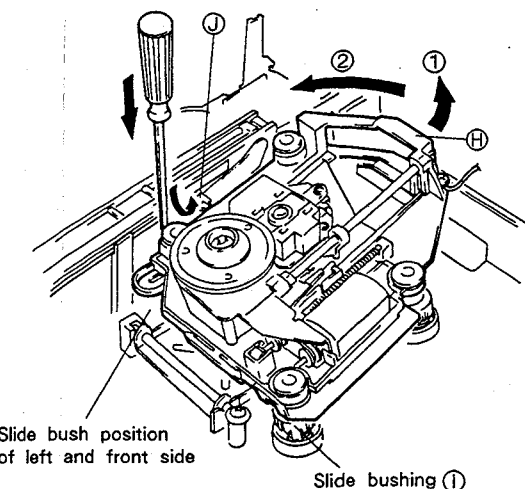

Fig. 2-4
- ④ Push the slide bushing at the front left with a thin implement such as a ⊖ screwdriver (Fig. 2-4).
- ⑤ Pull up the rear side ⑧ of the servo mechanism assembly. (Arrow ① in Fig. 2-4)
- ⑥ To release the engagement at section ⑨ of the servo mechanism assembly, turn the assembly counterclockwise on the slide bushing ① (Arrow ② in Fig. 2-4)